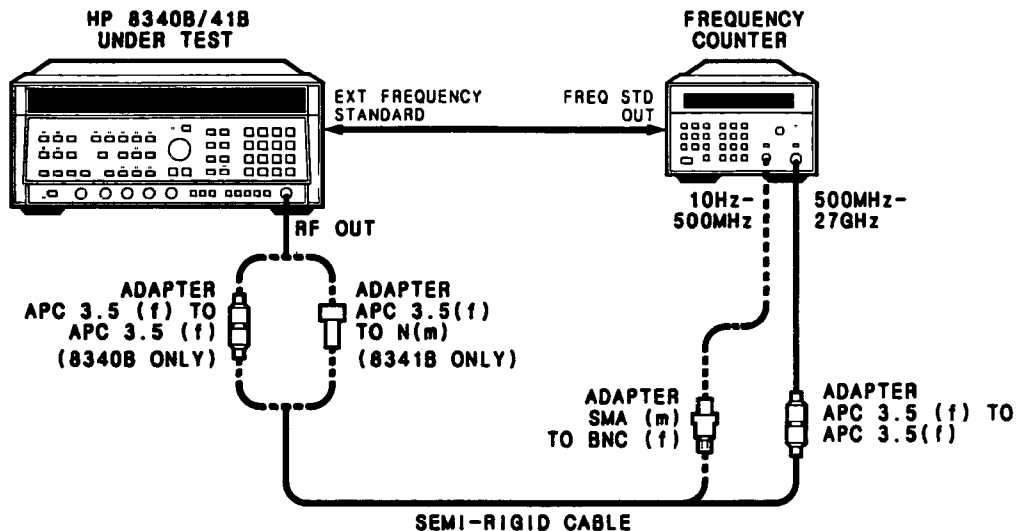

Figure 4-2. Frequency Range Test Setup
1. Connect the equipment as shown in Figure 4-2. Connect the DUT RF Output to the 10 MHz-500 MHz counter input. Allow the equipment to warm up for one hour. The DUT and the Frequency Counter use the same frequency standard to eliminate time base error from the measurement. Set the HP 8340B/41B rear panel FREQUENCY STANDARD switch to EXT.